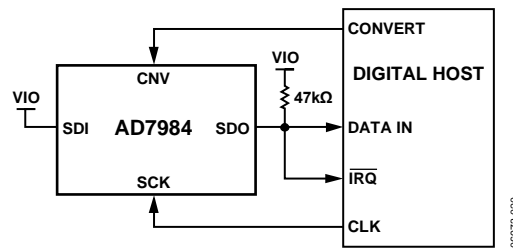
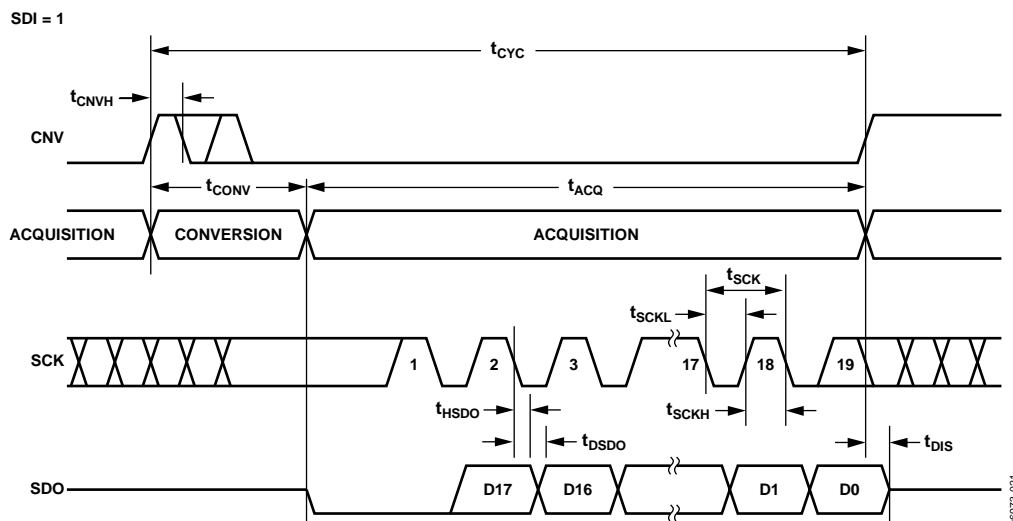
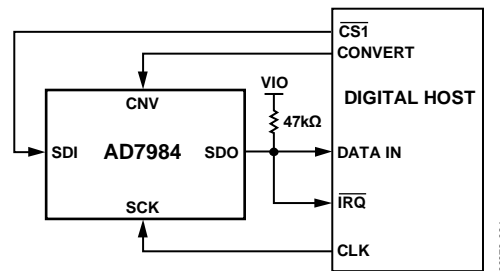
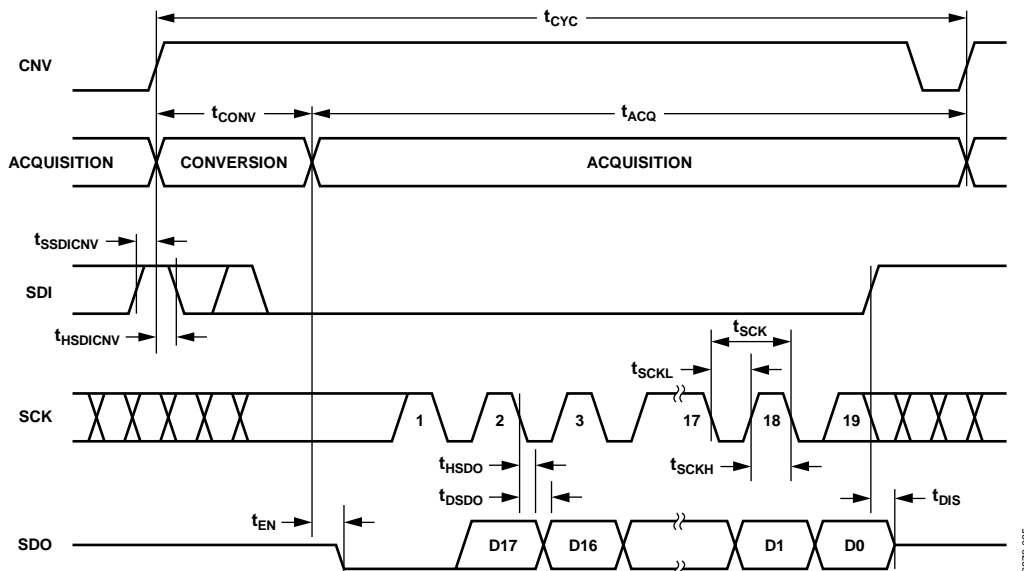

Figure 30. $\overline{\text{CS}}$ Mode, 3-Wire with Busy Indicator Connection Diagram (SDI High)
Figure 31. $\overline{\text{CS}}$ Mode, 3-Wire with Busy Indicator Serial Interface Timing (SDI High)
Figure 34. \overline{CS} Mode, 4-Wire with Busy Indicator Connection Diagram
Figure 35. \overline{CS} Mode, 4-Wire with Busy Indicator Serial Interface Timing
- In $\overline{\text{CS}}$ mode if CNV or SDI is low when the ADC conversion ends (see Figure 31 and Figure 35).
The connection diagram is shown in Figure 30, and the corresponding timing is given in Figure 31.
The connection diagram is shown in Figure 34, and the corresponding timing is given in Figure 35.